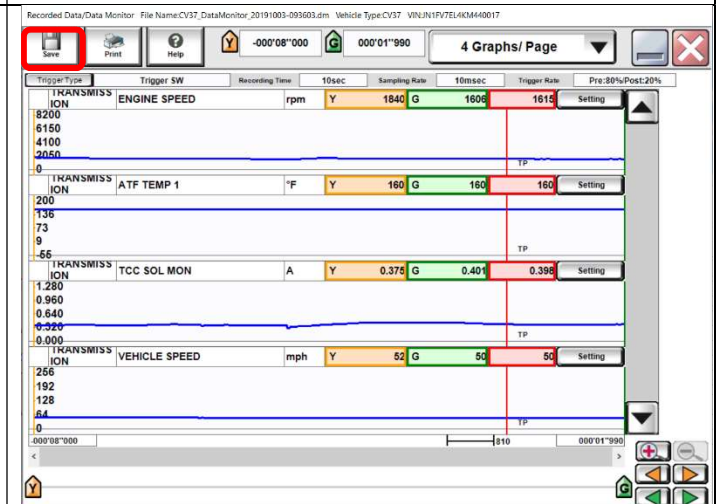

Figure 10
13. Save the data in C-III plus. (Figure 10)